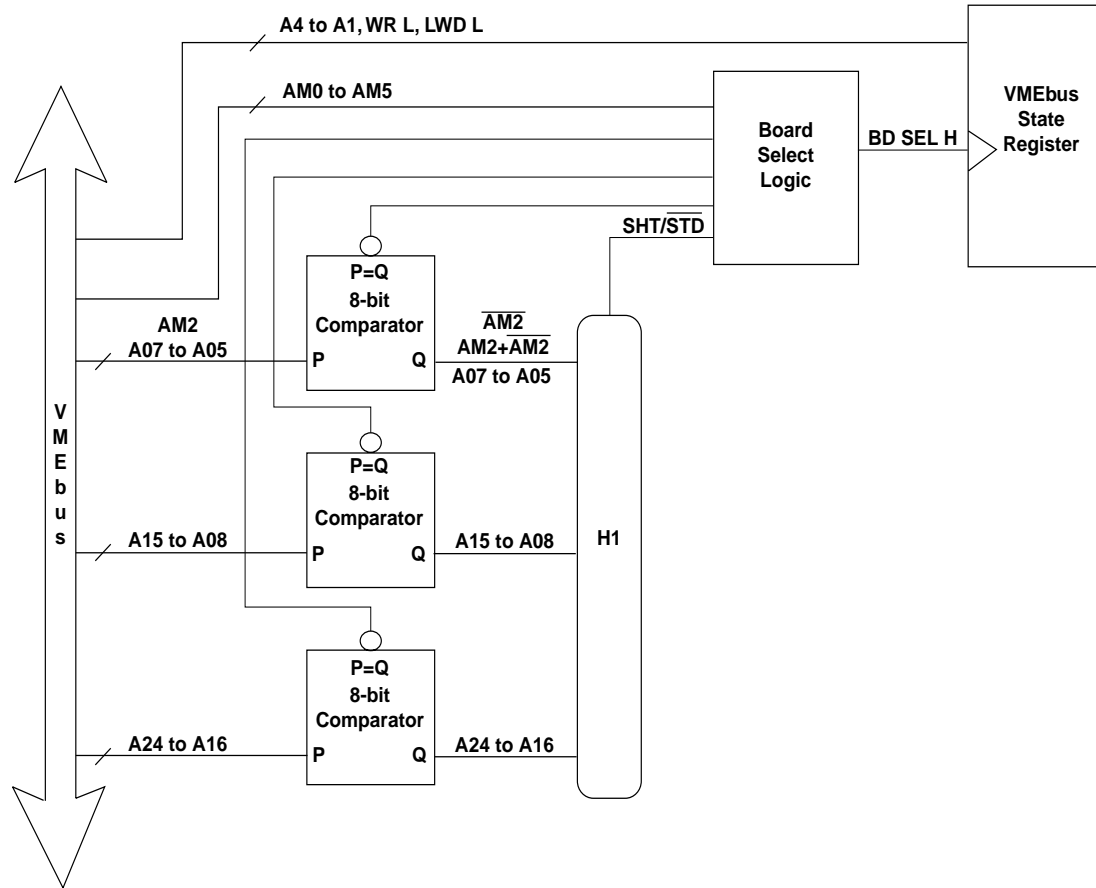

Figure 1-2 Board Select Logic
- Figure 1-2 Board Select Logic 17
The address decoder (shown in Figure 1-2 on page 17) determines when the board will respond to a VMEbus data transfer cycle. The decoder has three address comparators and their associated board address jumpers in header H1. There are two additional jumpers (also part of H1) involved in the decode function. One of them is the Short/Standard Addressing jumper. The other is the Supervisory/Nonprivileged jumper.